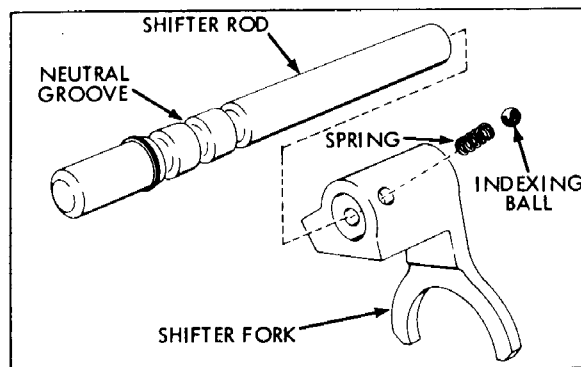

Figure 3-9
1. Assemble the shifter forks to the shifter rods as illustrated in Figure 3-9. The shifter forks are interchangeable.
2. Refer to Figure 3-9. Slide the shifter fork onto the shifter rod until it comes to the hole with the indexing ball and spring. With a flat blade screw driver press the indexing ball into the hole and move the shifting fork completely onto the shifter rod.